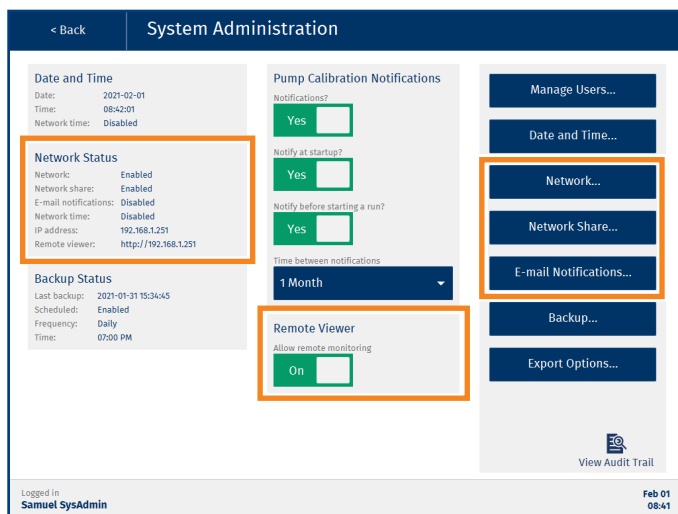

Figure 10. The network features in the System Administration view.
Network configurations can be done in the **System Administration** view (see Figure 10) by users with system administrator access.
To get an overview of which network features are enabled on your system, see the **Network Status** field in the **System Administration** view (see Figure 10).
2. In the **System Administration** view, press **Network....** (see Figure 10).
The remote viewer is enabled/disabled using the **Allow remote monitoring** option in the **Remote Viewer** field; see Figure 10.